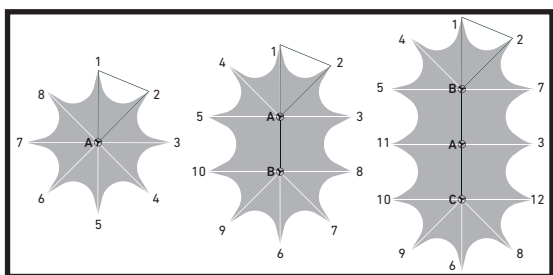

Fig. 4
3. If you set up a tent with 2 or more poles, first define the places of all poles A,B,C (Fig. 4). The measuring tool for poles has:
11. Use the anchor number 3 to stretch the ropes and drive it into the ground. Repeat the routine for the remaining anchors. If you set up a tent with 2 or more poles, follow the sequence of defining the points presented on Fig. 4.